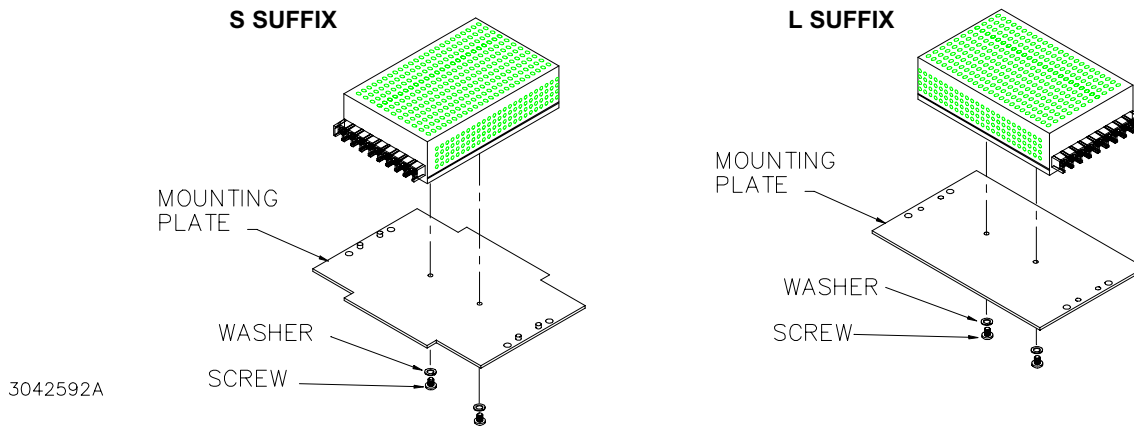

FIGURE 3. INSTALLING MOUNTING PLATE ON POWER SUPPLY
2. **INSTALL MOUNTING PLATE.** Attach the mounting plate to the power supply using the hardware supplied (see Figure 3).